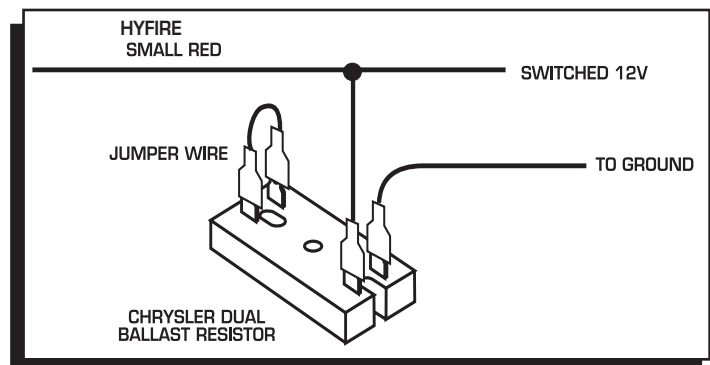

Figure 6 Wiring the Dual Ballast Resistor for Run-On.
**Most other applications:** On other applications where engine Run-On is experienced, a Resistor can be put in-line to the HyFire®'s small Red wire (Figure 6). This resistor will keep voltage from leaking through to the HyFire® unit.